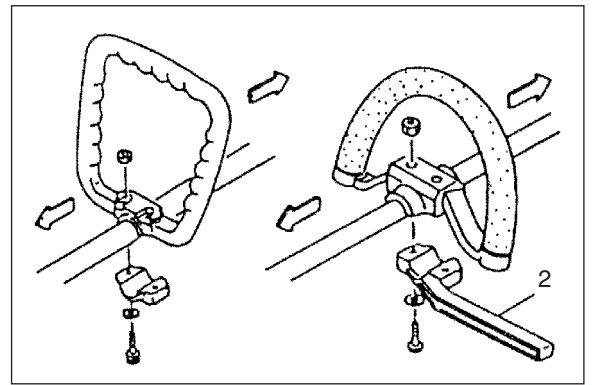

Fig.1-2
When you use steel/rigid blades on straight shaft trimmers or brush cutters, always use barrier bar (2) and shoulder harness with the loop handle. (Fig.1-2, 1-2B)